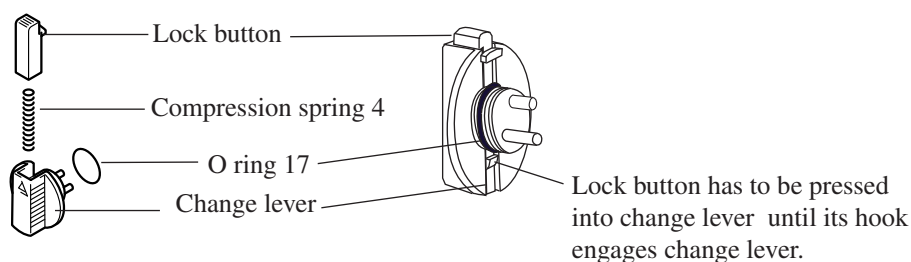

Fig.20
(1) Attach compression spring 4, lock button and O ring 17 to change lever as illustrated in Fig.20.